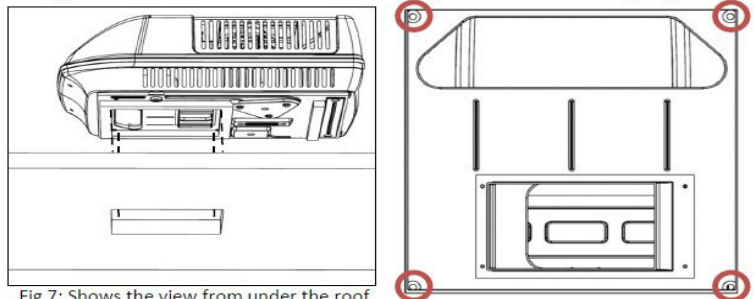

Fig 7: Shows the view from under the roof
- Four M8 mounting holes on the chassis underneath the air conditioner will line up with the corners of the square roof hole (Fig 7).